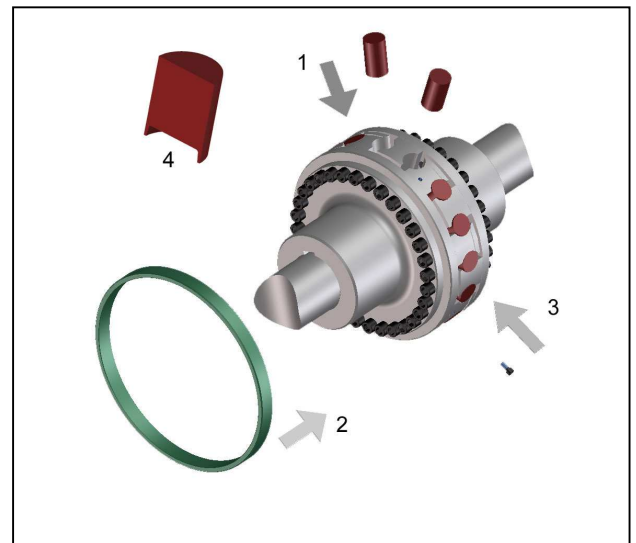

Fig. 7
- Mount the buffers with the hollow pointing inwards (Fig. 7, Pos. 4).
- Push the retaining ring (Fig. 7, Pos. 2) to the shoulder of the claw ring in such a way that it is centric to the elastic buffers.
- Fix the retaining ring with the locking screws on the claws of the claw ring. Tighten the locking screws (Fig. 7, Pos. 3) with the torque M_A as per table.